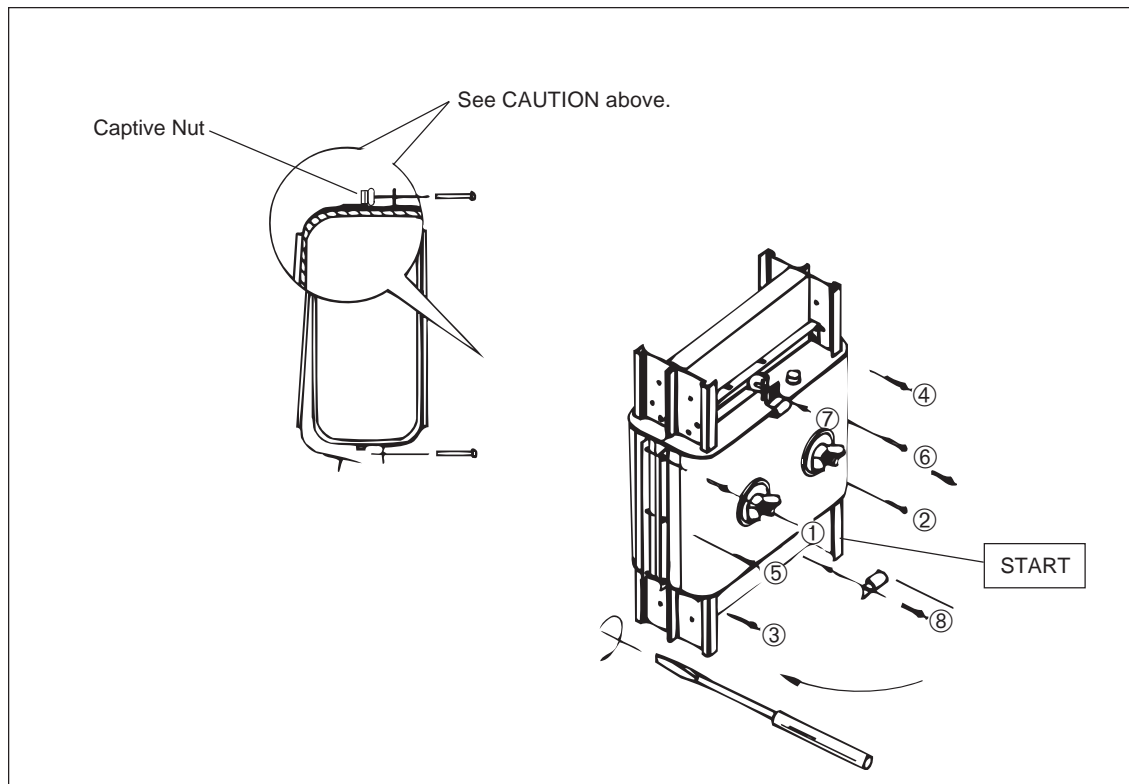

Figure 28
10. Insert the screws through the nuts and tighten them (figure 28).
Tighten screws in the sequence shown in figure 28.